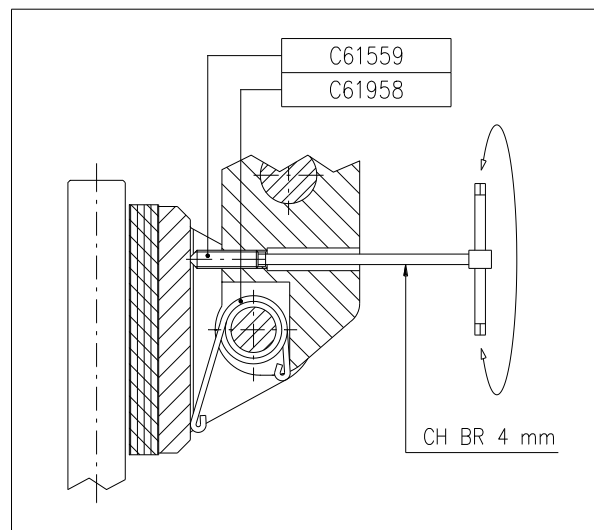

Figure 3
6. Adjust the brake shoes using the grub screw C61559 rotating it in the appropriate direction with a n. 4 Allen key; the friction surface of the brake linings must be parallel to the surface of the disc (Figure 3).
5. Realign the brake shoes as described in point 6 of Chapter 7 (Figure 3).
4. Reassemble the shoe following the sequence in point 2 in reverse order, positioning the shoe alignment spring C61958 as indicated in Figure 3.
3. Remove the shoe alignment spring C61958 from its seat and replace it with a new one positioning it as shown in Figure 3.